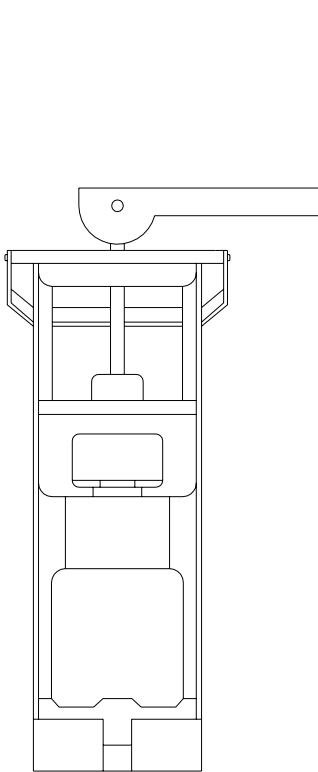

Figure 6-1a
13. Lift the lever and gently lower it to the horizontal position (See Figure 6-1a).
16. Press the **MoASSAY** push-button, allow the display to stabilize, then read and record the Molybdenum (M) component.
17. Subtract the Background reading, (B), from the Molybdenum (M) reading and:
20. Close the canister by lowering the lever to the horizontal position. (See Figure 6-1a).